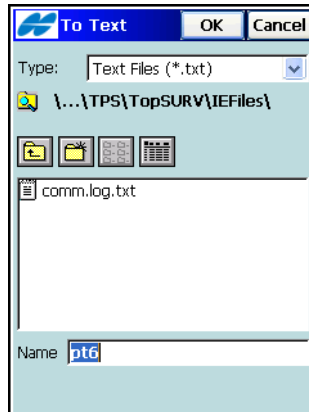

Figure 5-30. Select the File
4. When all data export conditions have been specified, a screen to choose the file opens (Figure 5-30). Using the Windows CE interface, browse for the file to export to or type the name of the file, and tap **OK**.